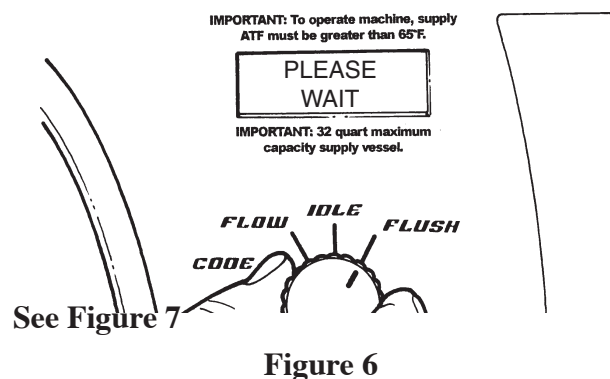

**Figure 4**
10. Connect the black supply hose and clear waste hose to the vehicle cooler lines in the reverse flow (backflush) direction. Refer to bulletin #02-07-30-052 for T.O.C. flow direction. **See Figure 4 and 5.**